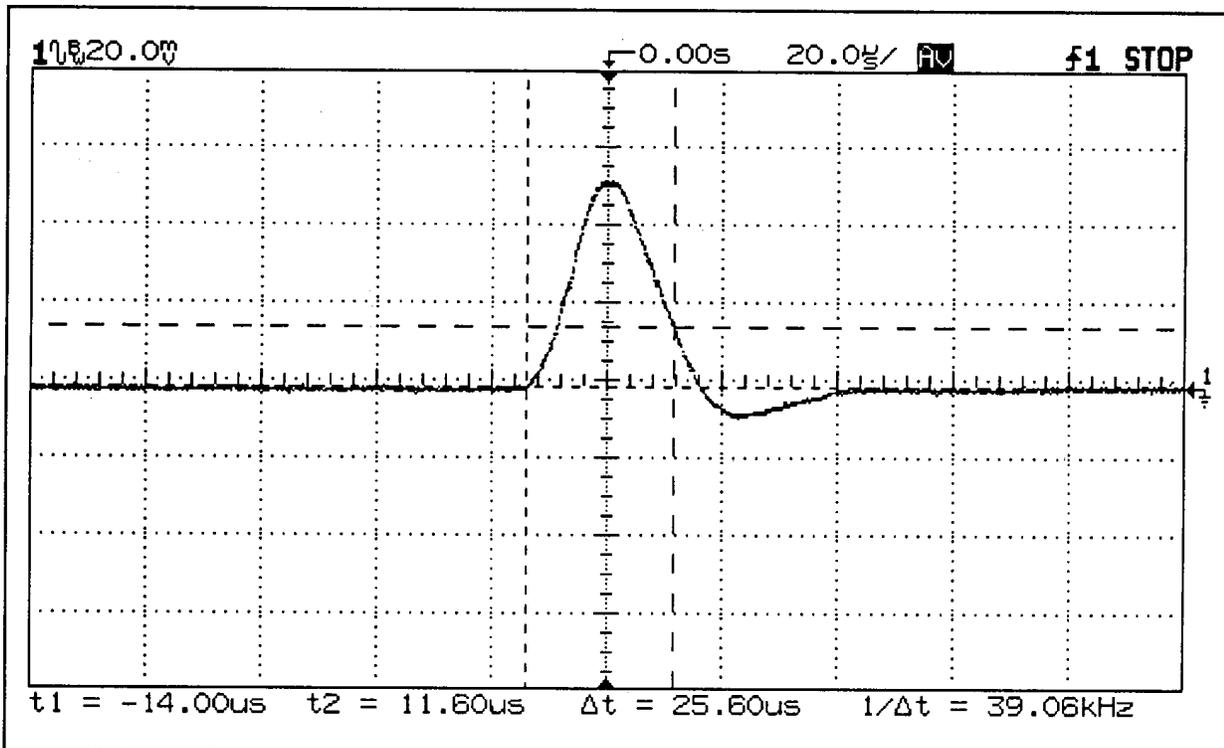

Figure A-9. Load Transient Response Time Waveform
- Adjust the oscilloscope to display transients as shown in Figure A-9.